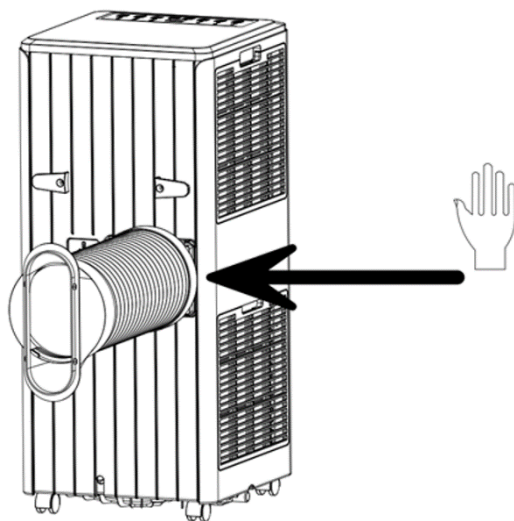

Fig. 2
1. Air duct installation (See Fig. 2)